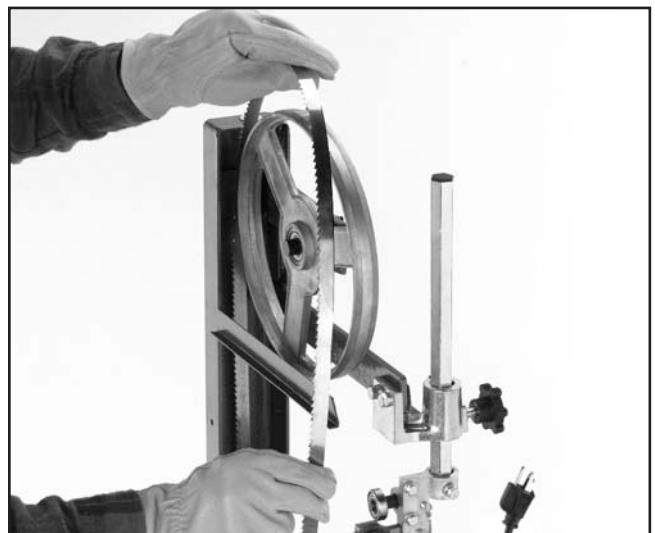

Figure 37. Removing the bandsaw blade.
9. Put on a pair of leather gloves to protect your hands from the sharp edges of the blade. Carefully remove the blade as shown in **Figure 37**.